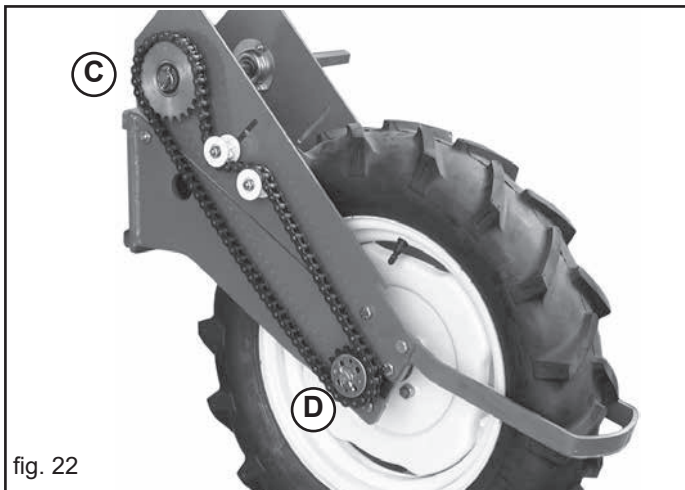

fig. 22
- If the seed planting distance is not obtained with the pinions (wheel C-D) fitted on the planting unit (Fig. 22), check with the table to see if they need to be replaced or have their positions reversed.